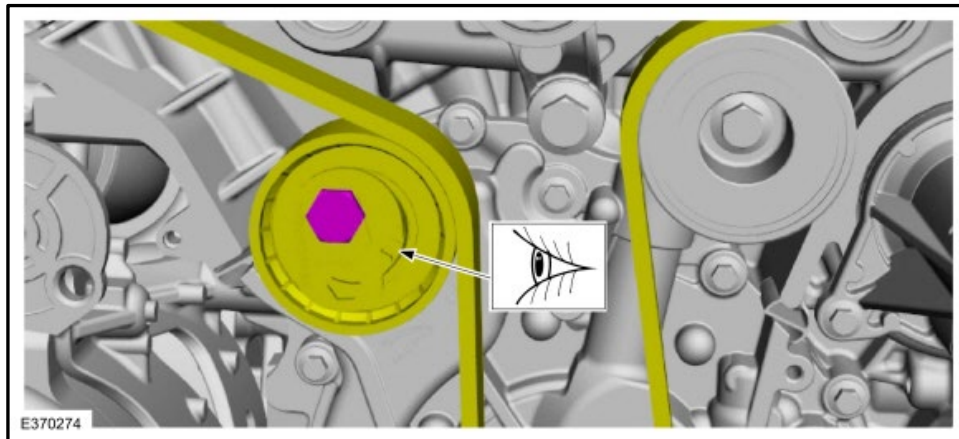

Figure 19
- N. If the timing belt tensioner pointer is not visible in the window, the timing belt tensioning step must be repeated. Figure 19 & 20